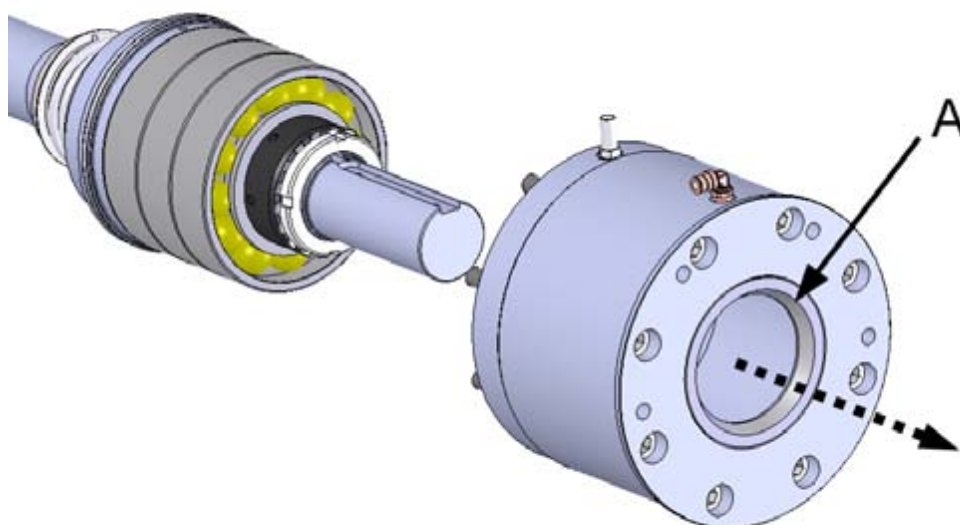

Figure 4. Bearing housing, shaft, bearings, and mechanical seal
7. Pull the bearing housing off the bearings (figure 4).
The bearing housing comes off along with the shaft seal (figure 4, point A).